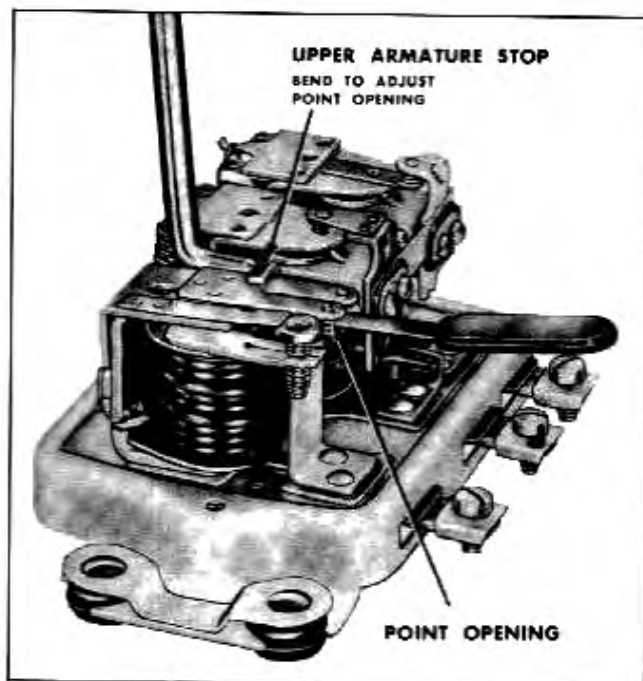

Fig. 12-31 Adjusting Cut-Out Relay Point Opening
2. Check point opening and adjust to .020" by bending upper armature stop (Fig. 12-31).